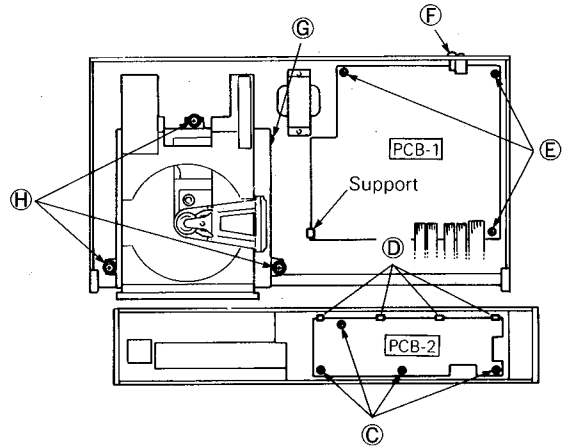

Fig. 3
- Remove 4 screws (C) and 4 catches (D), then remove the Control Switches P. C. Board (PCB-2). (Fig. 3)
- Remove 3 screws (E), support and a screw (F) holding the Output jack. (Fig. 3) If necessary, unsolder the lead wires.
- Remove a screw (G), then remove the lug terminal with lead wire.
- Remove 3 screws (H), then remove the CD Player Mechanical Assembly.